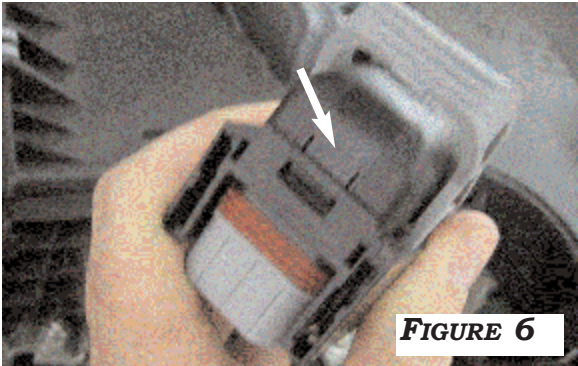
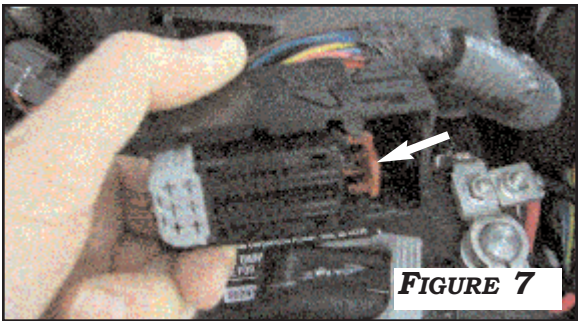

FIGURE 6
FIGURE 7
- 8. PRESS IN TAB TO REMOVE TOP COVER OF CONNECTOR TO ACCESS PIN LOCATIONS. **FIGURE 6.** THEN RELEASE CENTER SLOT CLIP AS SHOWN IN **FIGURE 7.**